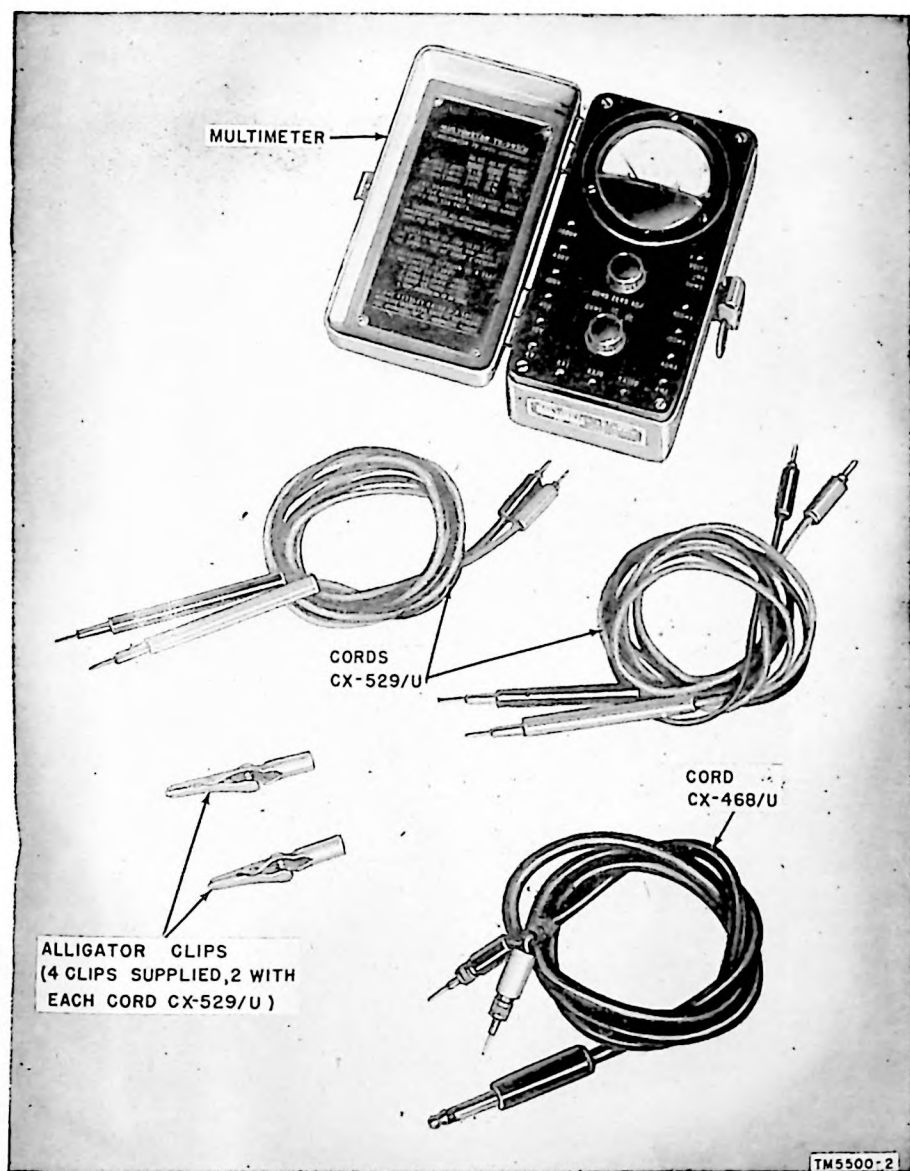

Figure 2. Multimeter TS-297/U, components.
5. Description of Components (fig. 2)
12. Cords (fig. 2)